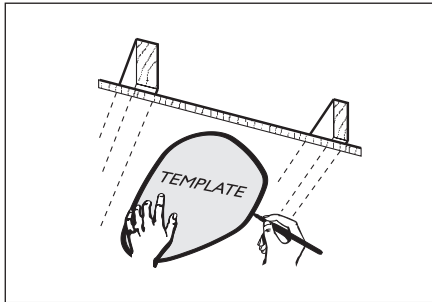

Fig. 8: Use template to mark position of Tastic
1. After determining the location of the Tastic and components according to directions, use the card included with your Tastic Carton as a template to mark out and cut an aperture in the ceiling (Fig. 8). Make sure that template is parallel to a wall.